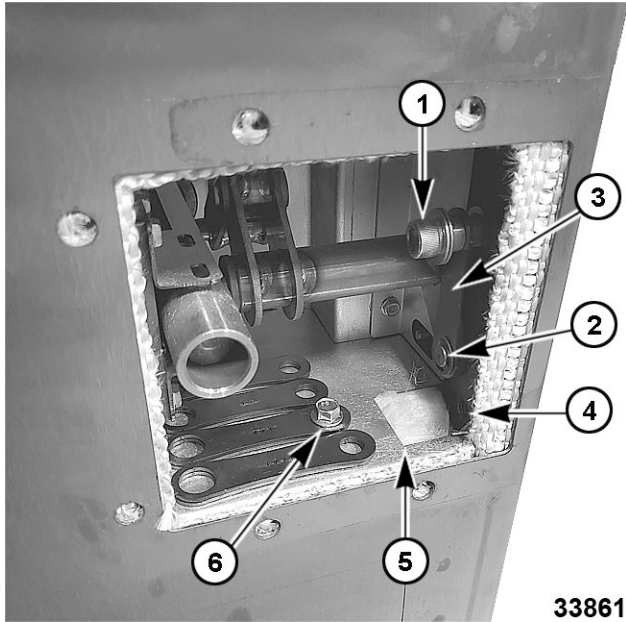

Fig. 73
NOTE: To prevent hardware from dropping into the inside of the door, cover the open space (5, Fig. 73) under latch arms.
- B. Remove 3/8" bolt (1, Fig. 73). DO NOT discard the tube, bolt, or washer.
- C. Remove E-clip and pin (2, Fig. 73). DO NOT discard the E-clip or Pin.
- D. Replace two latch arms (3, Fig. 73) with parts supplied. Reassemble inner mechanism, making sure linkage arms are located in the up position. Place unused arms in latch box and secure with 1/4-20 x 3/4" hex head serrated flange screw (6, Fig. 73). Reattach inner door handle.
NOTE: For left hand hinge, bolt and arms must be flipped and mounted to left-hand hinge hole (4, Fig. 73). Place unused arms in latch box and secure with 1/4-20 x 3/4" hex head serrated flange screw (6, Fig. 73).